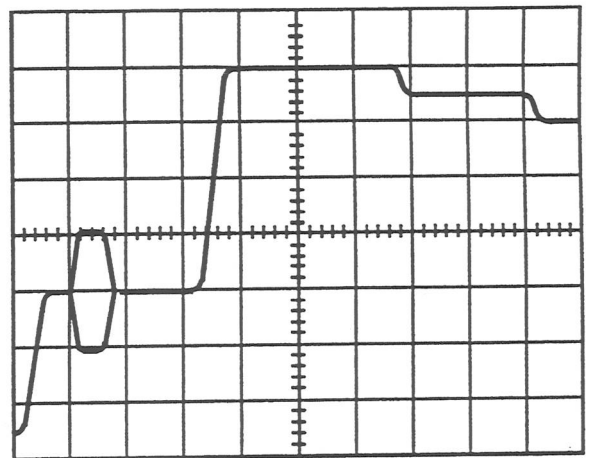

figure 14
- Select the DLY mode (24). The burst is positioned at the start of the screen (figure 14).